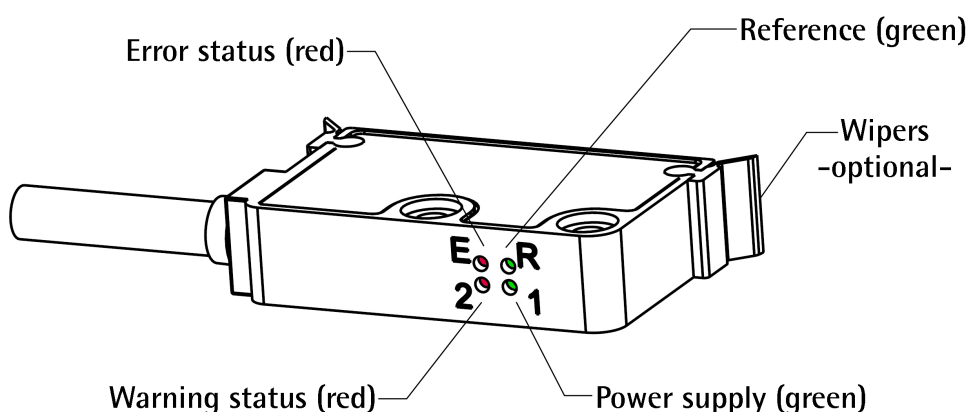

Figure 6 - Diagnostic LEDs and optional cleaning wipers
4.10 Diagnostic LEDs (Figure 6)